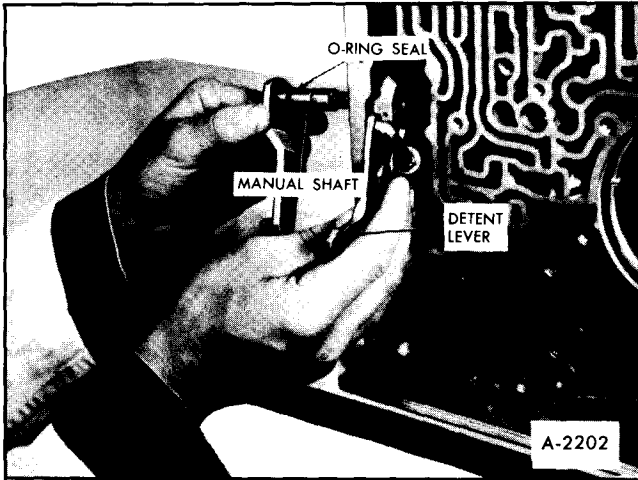

Figure 93—Installing Manual Shaft
6. Install the manual shaft assembly through the retaining lock nut on manual shaft, Figure 93.